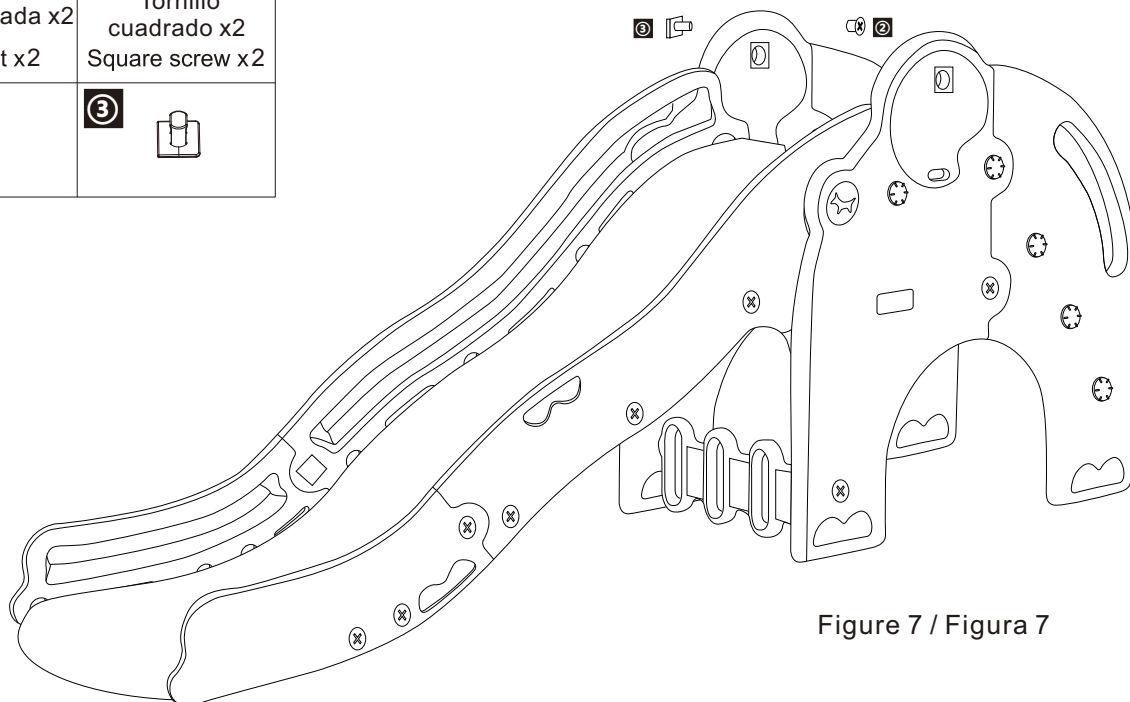

Figure 7 / Figura 7
5. Install the basket on the main side plate and tighten the nuts (as shown in Figure 7).